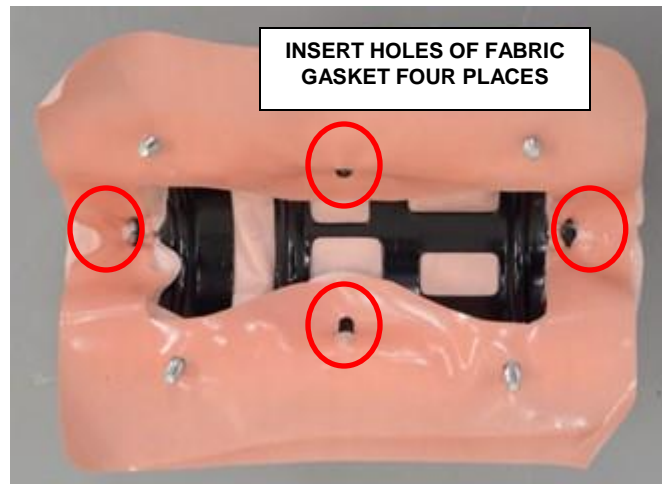

Figure 69 – Fabric Gasket
- i. With the help of a trim tool insert the holes of fabric gasket, four places (Figure 69).